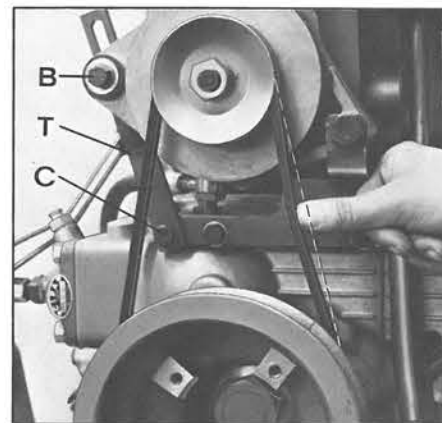

Fig. 25
- **Alternatore** (fig. 25): allentare i bulloni B e C ed agire sul tirante T.
- **Alternator** (fig. 25): unscrew the bolts B and C and pull or push on the support T.